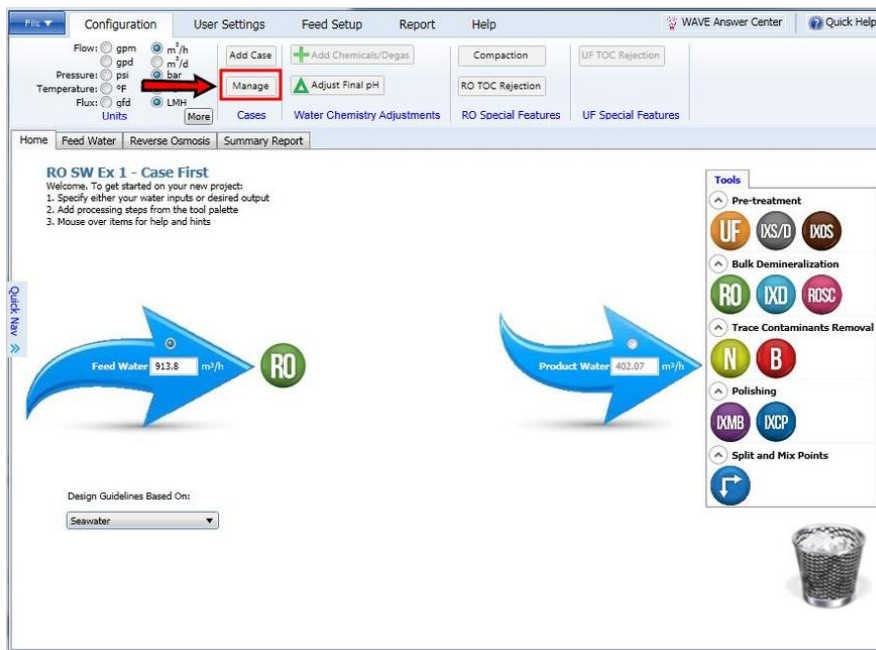

Figure 191. Creating a new case using the Case Manger - accessing the Case Manager
1. Click on the “Manage” button in the Home Tab (as shown in Figure 191)